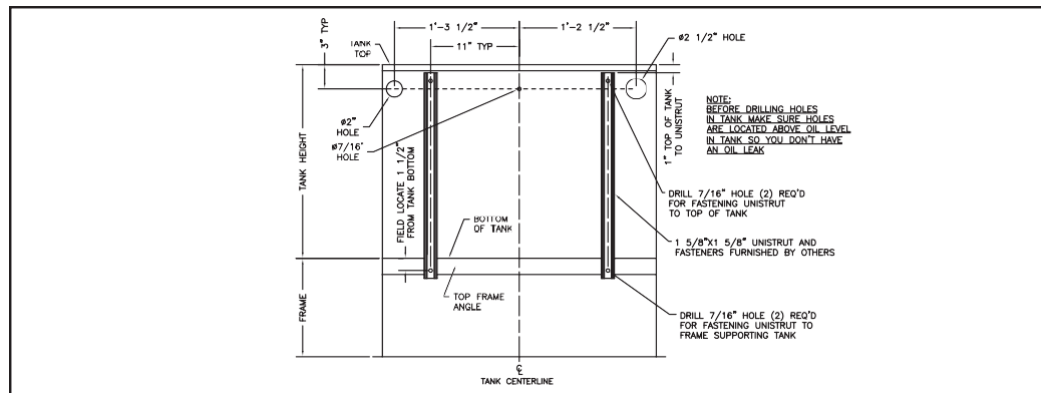

Fig. 8: Optional mounting method using uni-strut.
NOTE: Use optional uni-strut mounting for additional structural supports (**figure 8**) if oil level in tank will not allow drilling per template.
Install Uni-strut per (figure 8). Install oil cooler mounting bracket onto the uni-strut using the (4) 3/8-in. hex head bolts, washers and nuts provided. Rotate 90° elbow to the necessary position making sure not to loosen fitting.